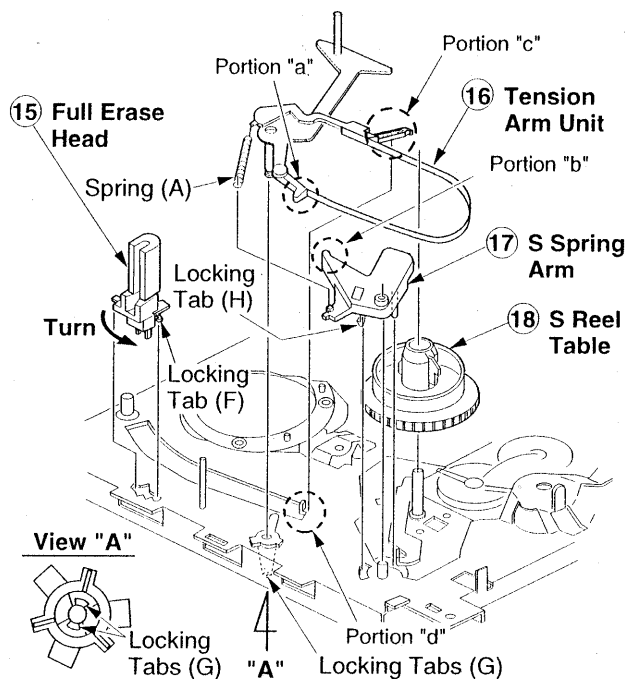
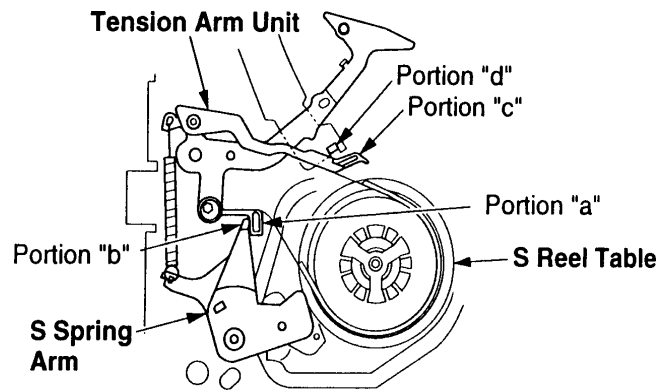

Fig. 14 - Full Erase Head/Tension Arm Unit/S-Spring Arm/S-Reel Table Removal
Fig. 15 - Full Erase Head/Tension Arm Unit/S-Spring Arm/S-Reel Table Removal
**Full Erase Head/Tension Arm Unit/S-Spring Arm/S-Reel Table Removal (Figs. 14, 15)**
1. Turn the full erase head fully counterclockwise as shown in Fig. 14 and then remove it.
2. Unhook spring (A).
3. Release two (2) locking tabs (F) and remove the tension arm unit by pulling it up.
4. Release locking tab (G) and remove the S-spring arm.
**Note:** When installing the tension arm unit and the S-spring arm, confirm that points (a, b, c, and d) are positioned as shown in Fig. 15.